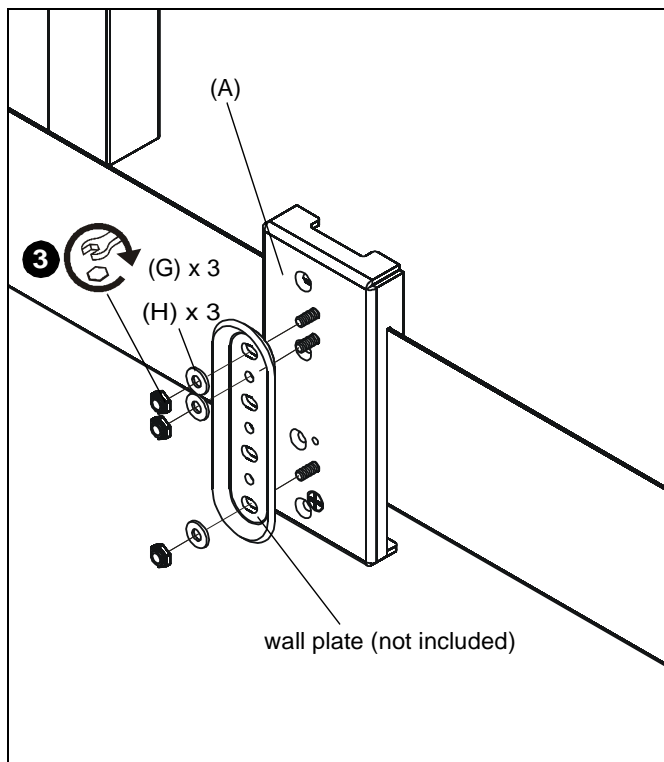

Figure 5
3. Secure wall plate (not included) to main bracket (A) by installing three #10-24 lock nuts (G) and three #10 washers (H) onto three permanent screws on main bracket. (See Figure 5)